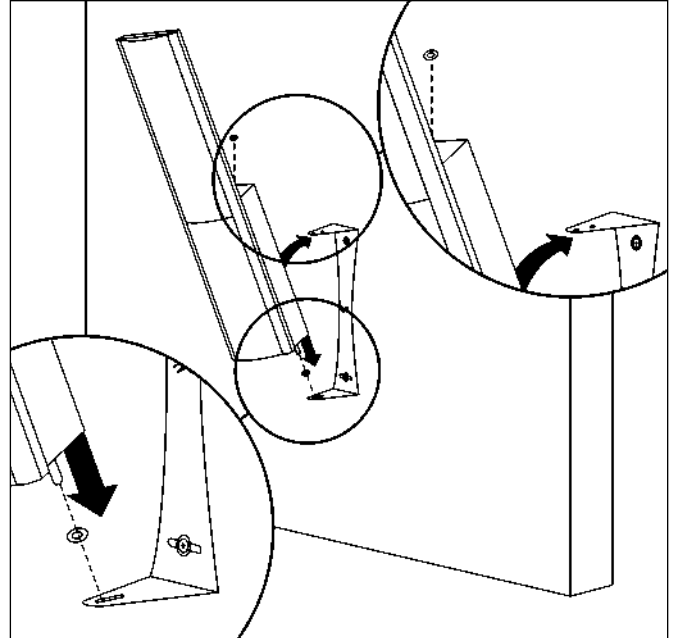

Figure 6.
- 7 Check to make sure that a 1-1/2 inch rubber spacer is on the threaded stud on the bottom of the speaker. Pick up the speaker and carefully angle the bottom of the Script into the bracket by inserting the projecting threaded stud on the bottom of the speaker cabinet through the slot in the bottom support of the wall bracket (see figure 6).